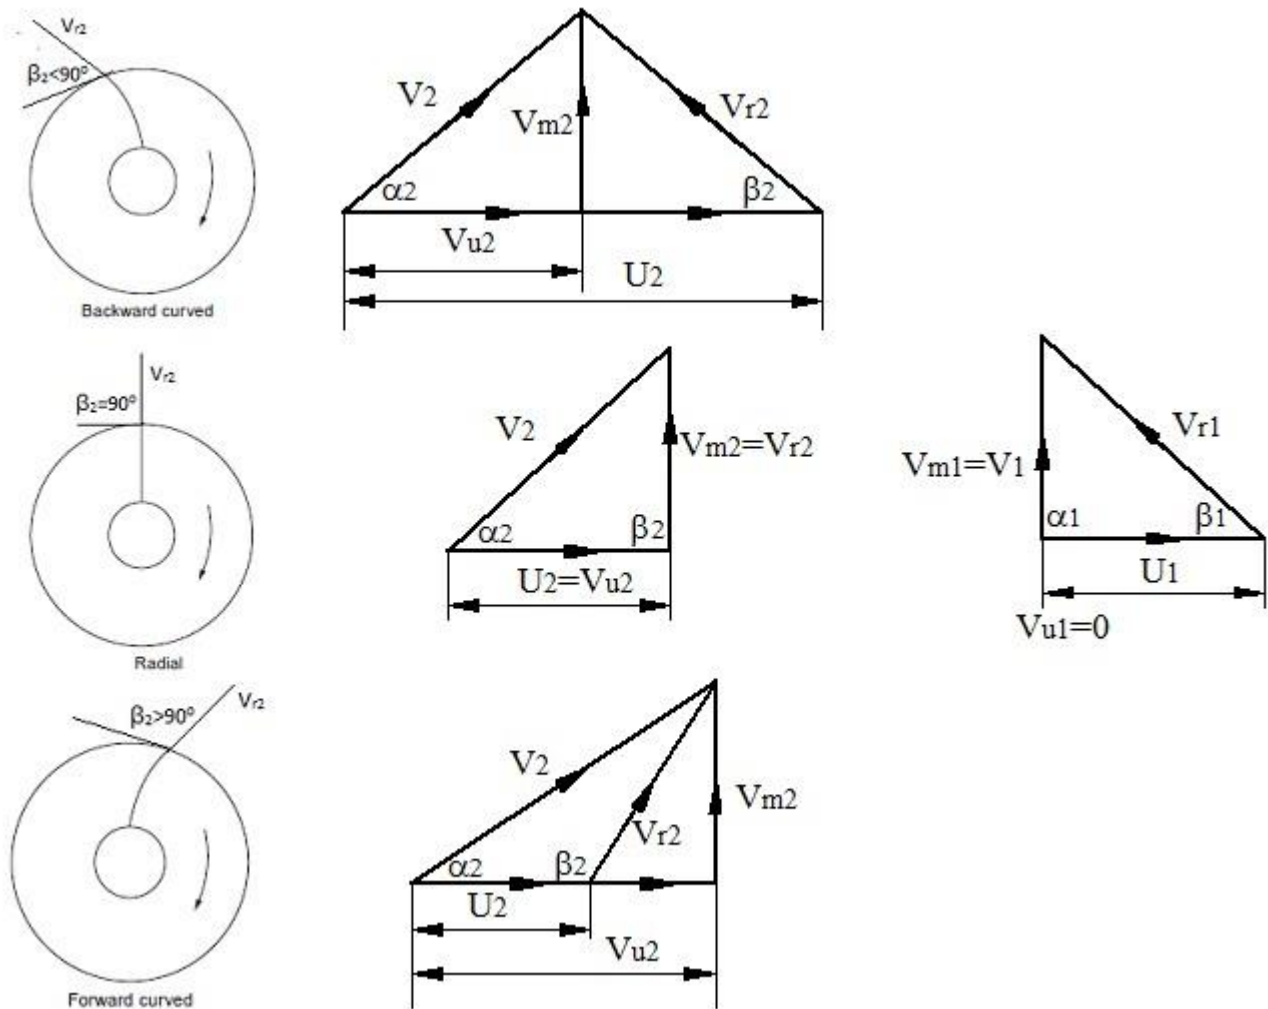

Fig. 7.2 Different vane shapes in centrifugal compressors.
**Answer:** Figure 7.2 gives the velocity diagram for different vane shapes. For compressor which absorb a specific amount of energy and runs at a given speed, the diameter ( $D_2$ ) and whirl velocity ( $V_{u2}$ ) can be varied to maintain  $U_2 V_{u2}$  at the required value. Hence if  $\beta_2$  is large (as in forward curved vane),  $V_{u2}$  is also large and  $U_2$  has to be small that is diameter should be decreased. Similarly, if  $\beta_2$  is small (as in backward curved vane),  $V_{u2}$  is small. Hence  $U_2$  has to be large and the diameter should be increased appropriately to provide the required performance. This implies that compressor with backward curved vanes are larger in size than those with forward curved (or radial) vanes of the same capacity.